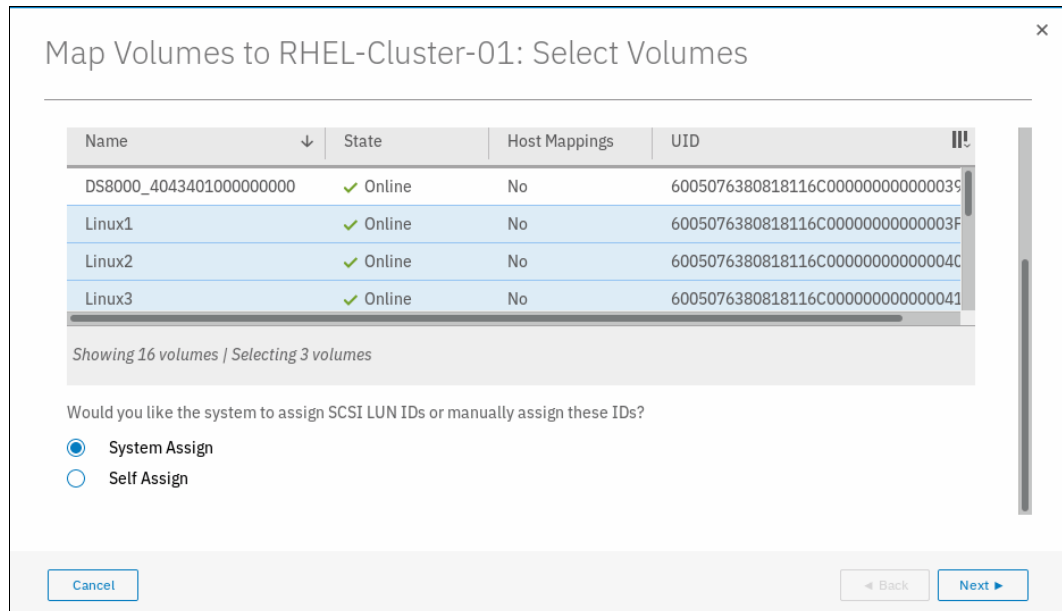

Figure 5-88 Selecting the list of volumes
4. Select the list of volumes to be mapped to the host cluster, as shown in Figure 5-88.